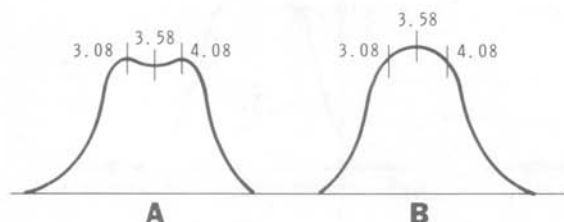

Figure 16
- ( ) Reconnect the equipment as shown in Figure 16 (fold-out from Page 75).